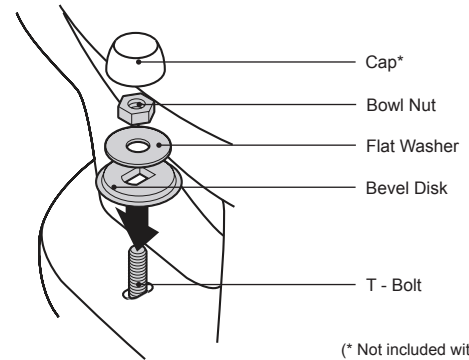

Figure 6
- 1 Place the following parts onto the T-bolt in the order listed (Figure 6):